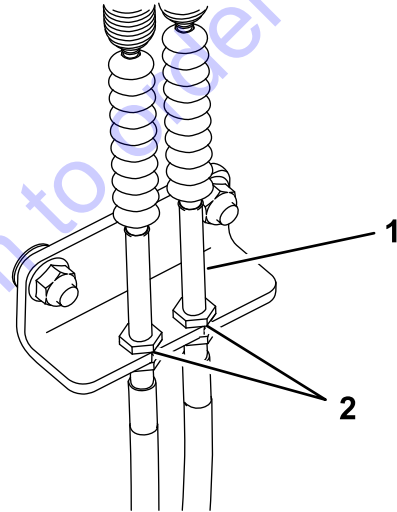

Figure 43
2. Inside the left side of the control tower, adjust the nuts until the cables are taut (Figure 43).